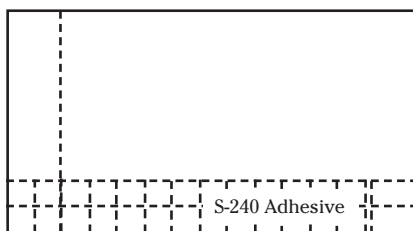

Fig. 5
2. Move chalk lines to one corner or end of the area farthest from the doorway. These lines should be 2' or 3' from the wall depending on your reach (Fig. 5).